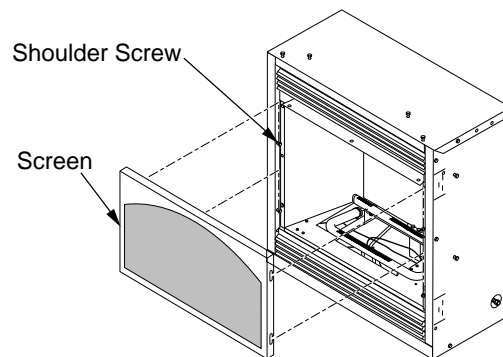

Figure 2 - Removing and Installing Screen
1. Lift fireplace screen up and pull out to remove (see Figure 2). Set screen aside until installation has been completed.